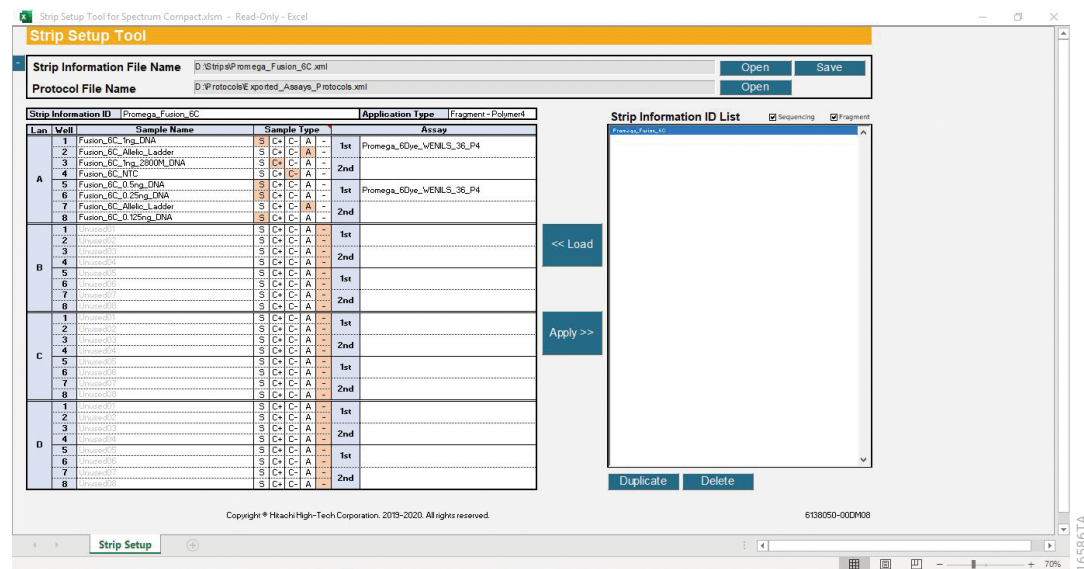

Figure 218. Strip Setup Tool for Spectrum Compact with Strip Information ready for editing.
3. The information for that strip now appears on the left-hand side of the screen (Figure 218).